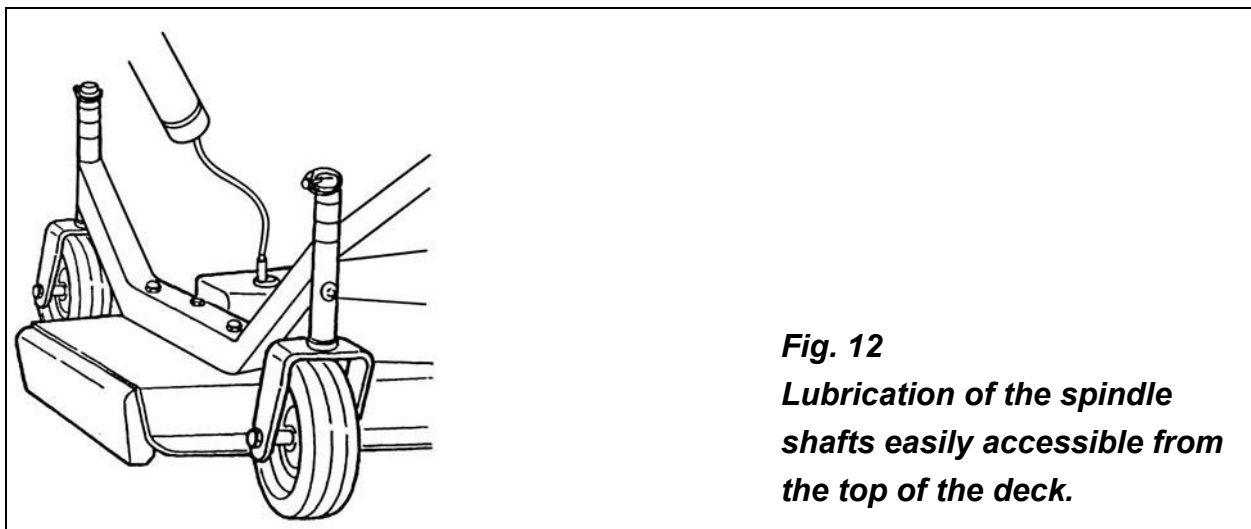
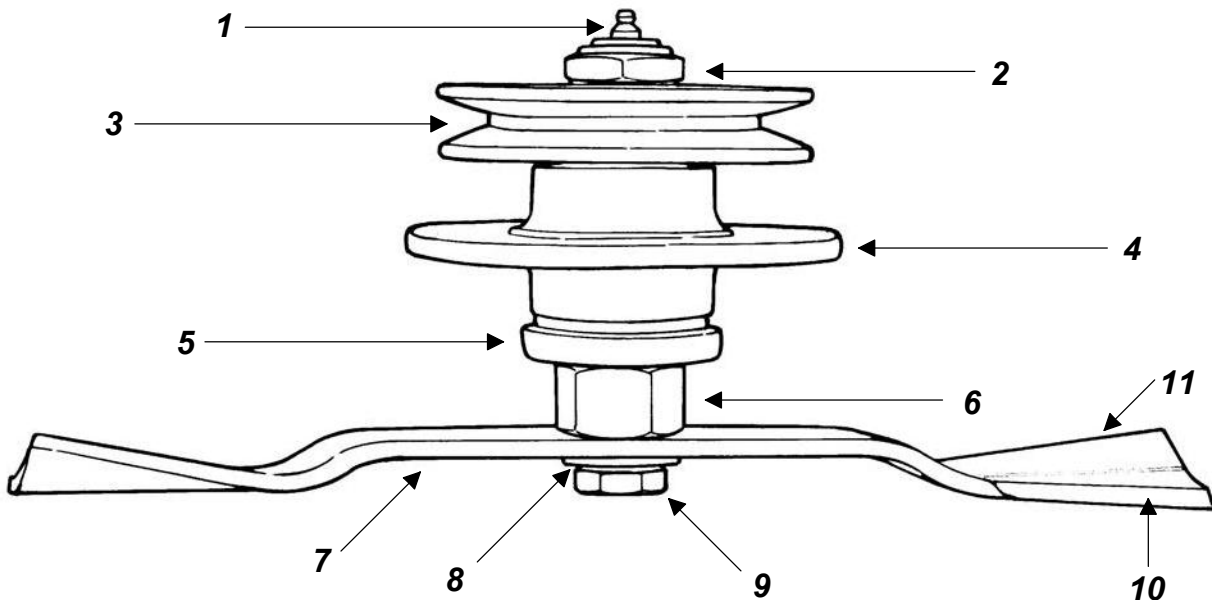

Fig. 12
Fig. 13 - Spindle assembly.
1. Lubricate the three spindles with multipurpose grease (see fig. 12). Pump grease until you see it seep through the hole on the bottom cover (see #5, fig. 13) of the spindle. The top grease fittings are easily accessible from the top of the deck by simply removing the plastic dust guards.
1. The blade turns in a **counter clockwise** direction when viewed from the bottom of the deck. The cutting edge must be towards the direction of rotation. The lift wing of the blades is closest to the deck and the cutting edge away from it (**see fig. 13**).
2. Install the cup washer (**see fig. 13**) over the blade bolt and secure the blade in place as described above.